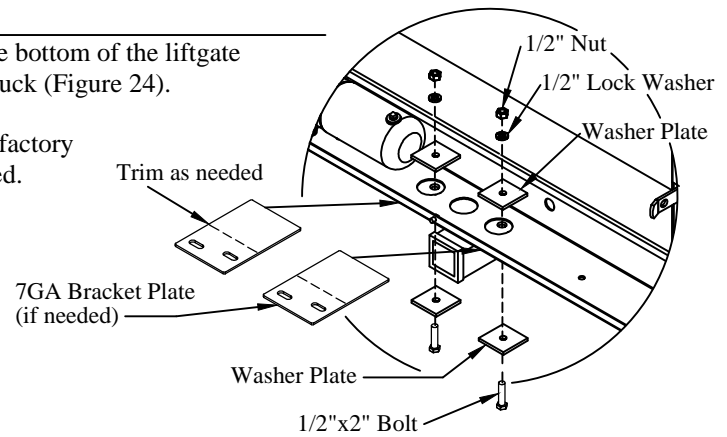

Figure 24: Lower bracket support (Class 5 hitch).
- 1. Assemble** the supplied hardware through the outer two holes in the bottom of the liftgate mainframe and the two holes in the factory hitch plate on the truck (Figure 24).